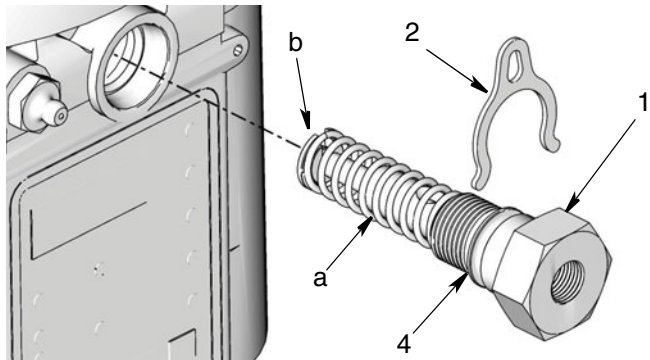
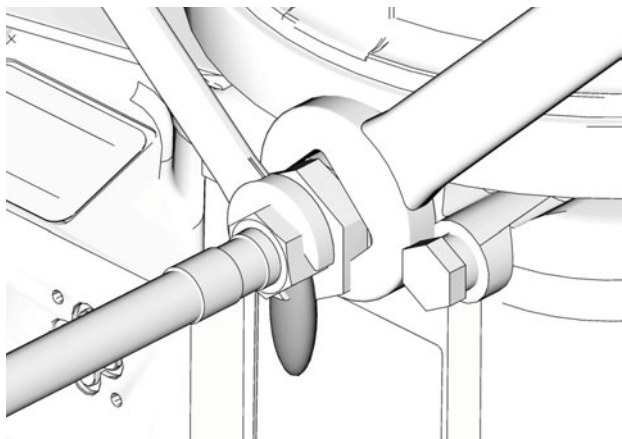

FIG. 2
FIG. 3
Make sure spring (a), retainer (b) and piston (c) are removed with pump element (FIG. 2).
1. Examine new pump element (1) . Make sure spring (a), retainer (b), o-ring (4) and piston are installed (FIG. 2).
2. Install stroke adjust spacers (2) (or no stroke adjust spacers) as required for correct volume output.
4. Tighten pump element by hand and then torque to 50 in. lbs (5.6 N•m) (FIG. 3).